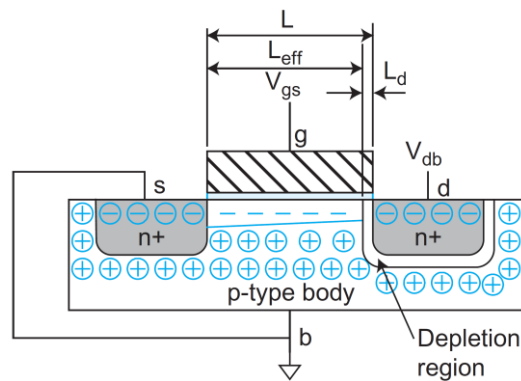

Figure 16: Depletion region shortens effective channel length
- ✓ The p-n junction between the drain and body forms a depletion region with a width  $L_d$  that increases with  $V_{db}$ , as shown in Figure 16.
- ✓ Shorter channel length results in higher current. Thus,  $I_{ds}$  increases with  $V_{ds}$  in saturation, as shown in Figure 16.